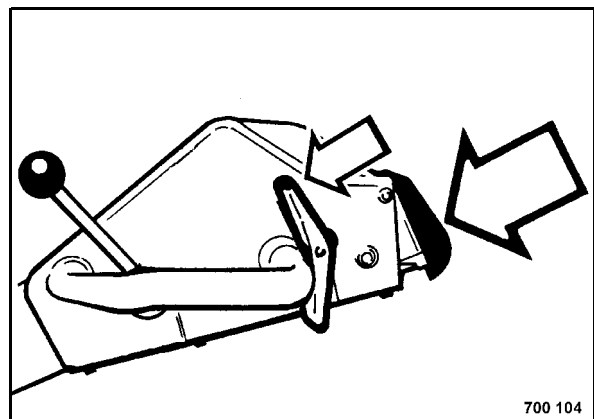

Fig. 34
- When actuating the reversing protection (Fig. 34), the travel lever (tip switch) switches over from backwards to forward travel.